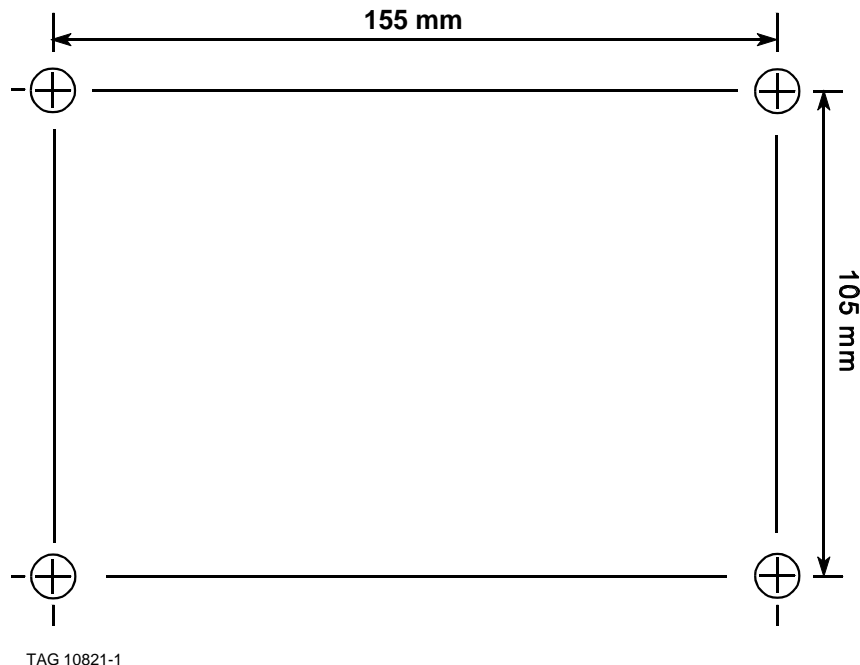

Figure 2: Wall Mounting Template
- a) Referring to Figure 2 (or using the template supplied with the Serial Encoder), drill holes to accept 8mm plugs and screws.